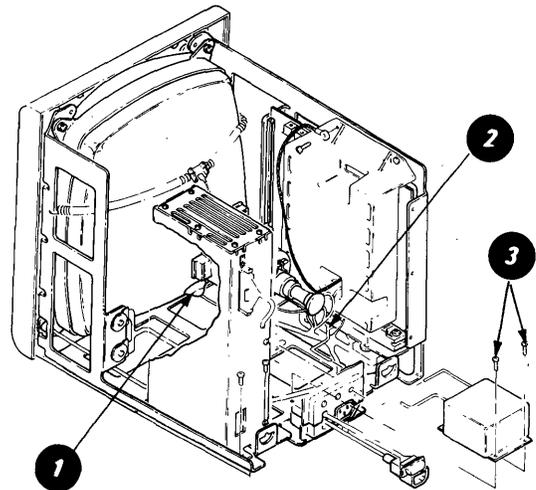

Figure 4-22. High Voltage Power Supply Removal
4. Disconnect the anode lead ① from the CRT. (See Figure 4-22.)
5. Disconnect the cable plug J3 from the connector strip ②.
6. Remove the two screws ③, and slide the power supply to the rear until free. (Save the two starwashers that are between the power supply cover and the mainframe.)